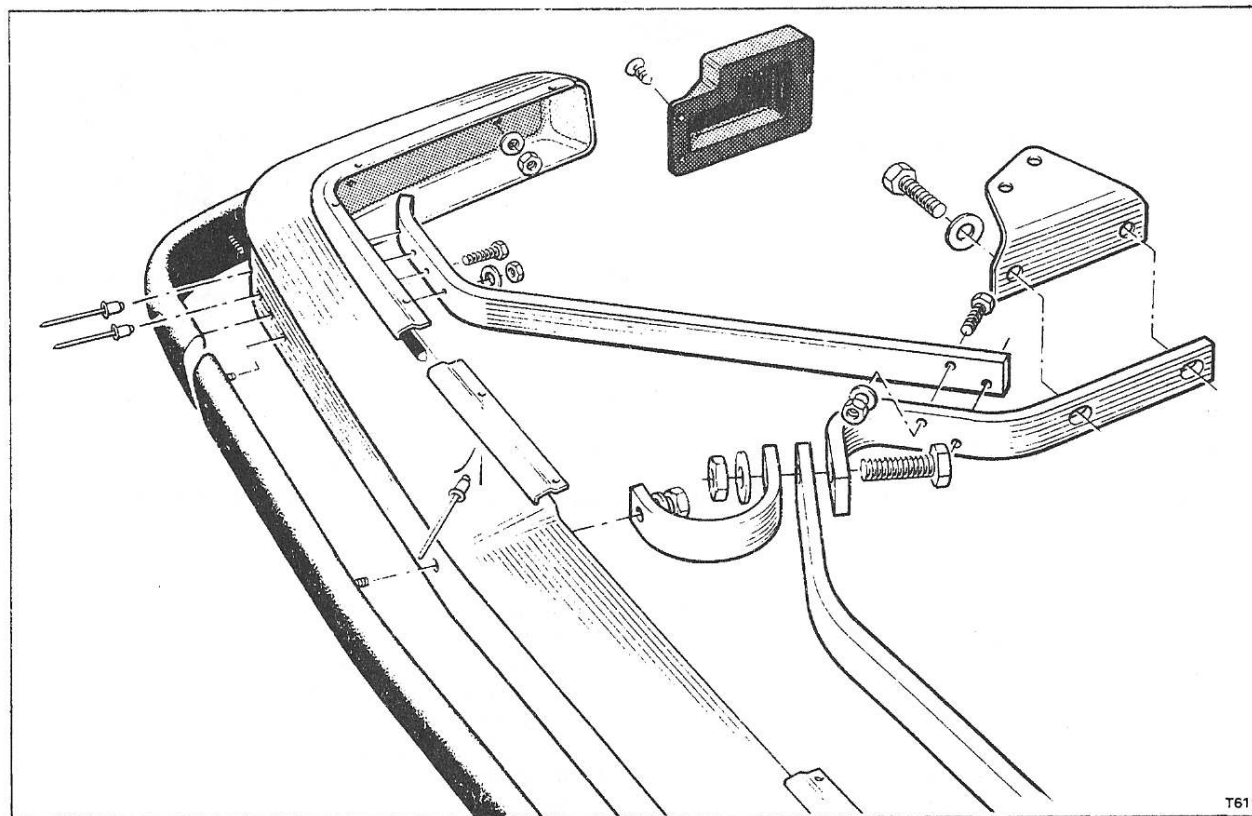

Fig. S85 Front bumper assembly (Camargue)
Front bumper assembly - To remove (see Fig. S85)
Front bumper assembly - To fit (see Fig. S85)
5. If it is necessary to dismantle the bumper stays from the mounting brackets refer to Figure S85.
5. Using the bumper stays as a guide, drill two 6,35 mm. (0.250 in.) holes through the finisher at each outer stay (see Fig. S85).